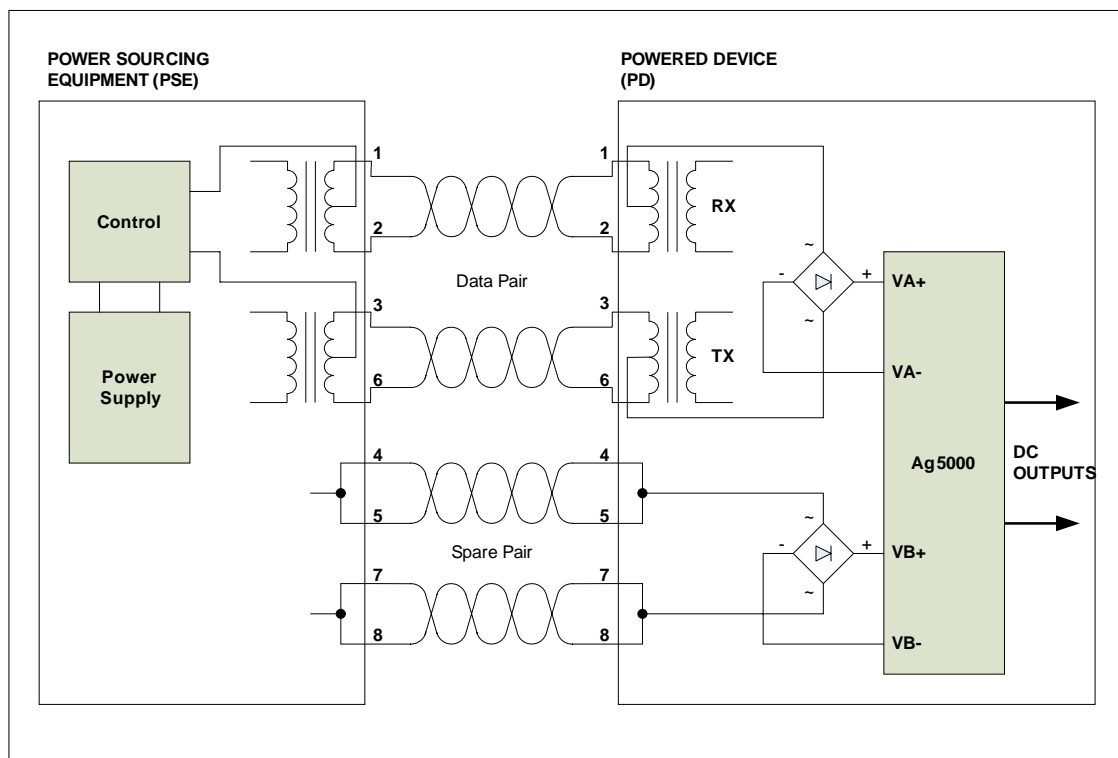

Figure 1: Single input on Data Pair
Mode 1 is shown in Figure 1, is where the Power Sourcing Equipment (PSE) supplies the power on the Data Pair to the Device (PD).